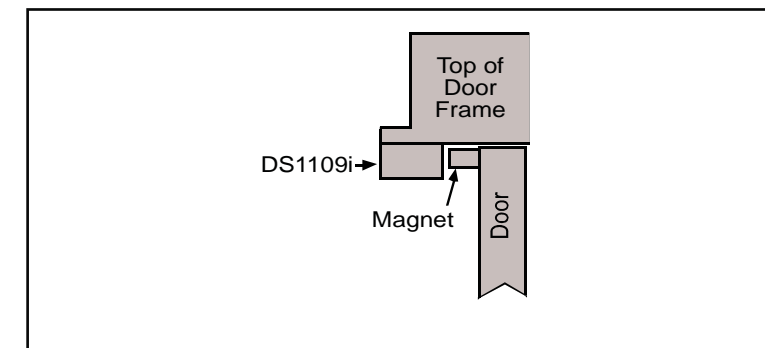

Figure 3.2: Side View
- Mount the magnet to the top of the door. The magnet should be placed so that it aligns with the side of the DS1109i. Do not allow the magnet to cover the front of the detector. See Figure 3.2.